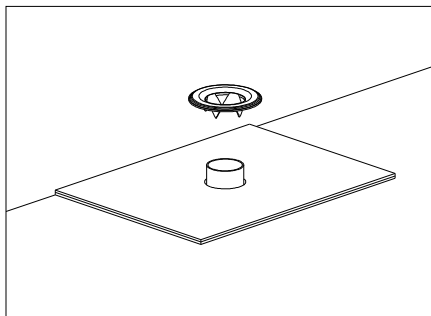

Figure 3
10. Place a grommet up through the drilled hole and place the washer over the grommet (see Figure 3).